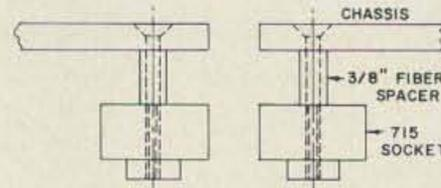

FIG. 2
3. The tube socket is recessed with 3/8" fiber spacers. This procedure permits the amplifier to self neutralize at six meters with no difficulties. If mounted on the chassis the circuit becomes almost impossible to neutralize. (see Fig. 2)